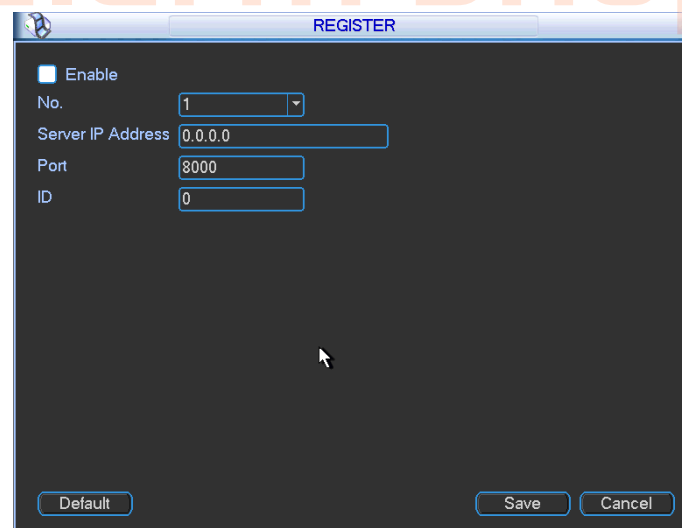

Figure 5-38
1) The setup interface is shown as in Figure 5-38.
3) Now you can add device. Please do not input default port number such as the TCP port in the mapping port number. The device ID here shall be the same with the ID you input in Figure 5-38. Click Add button to complete the setup.